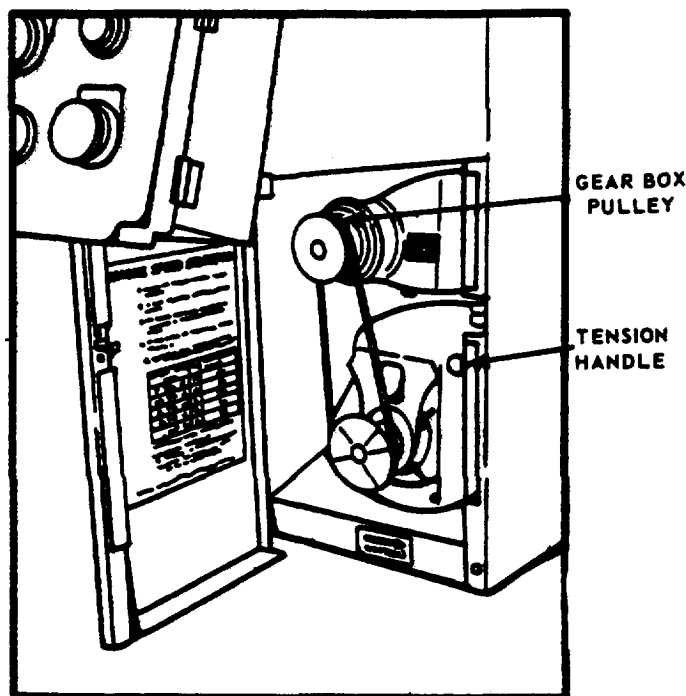

FIGURE 19
- (1) See Figure 19. Rotate Gear Box Pulley to put stroke at either extreme end.
- (1) Use 80 strokes per minute (SPM) for most passenger car rods and light truck rods in 1.9" 2.6" (48-66 mm) diameter range. Use 55 SPM for large truck rods over 2.6" (66 mm) in diameter.
- (2) Figure 19. Release tension on belt by lifting Tension Handle, and position belt in desired grooves. Release Tension Handle.